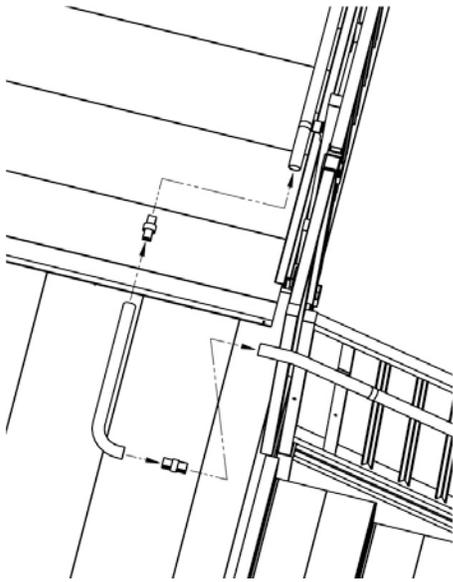
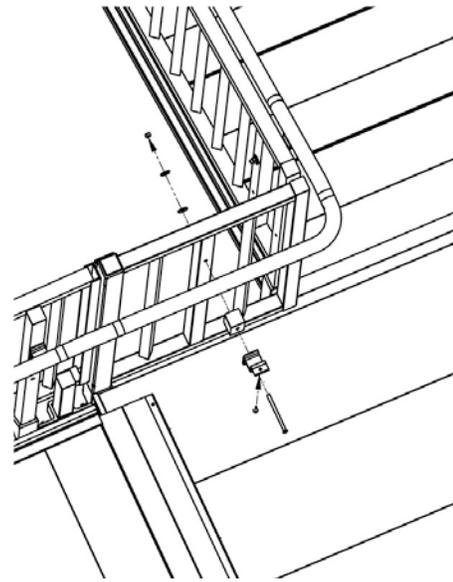

FIG. 26
FIG. 27
- 6.2 For situations where the step guard is adjacent to a ramp and at 90° to a 6' platform, also referred to as an "inside" corner, refer to steps 6.2.1 through 6.2.10 for connecting the step handrail to the ramp handrail (FIG. 26 and FIG. 27).